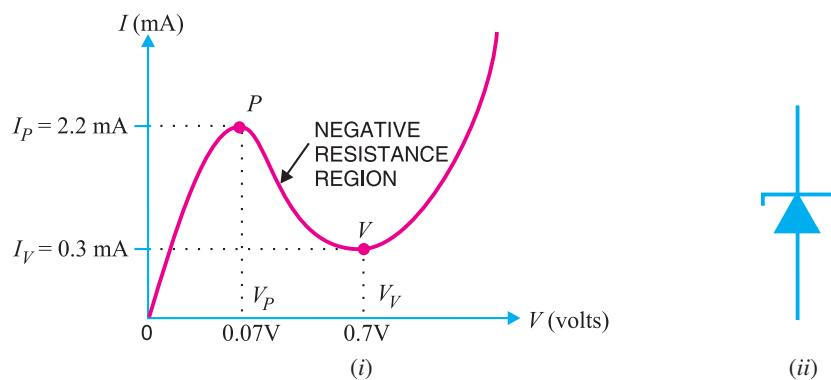

Fig. 7.18
**V-I Characteristic.** Fig. 7.18 (i) shows the V-I characteristic of a typical tunnel diode.
(iii) When forward bias is increased beyond valley-point voltage  $V_V$  ( $= 0.7\text{ V}$ ), the tunnel diode behaves as a normal diode. In other words, from point  $V$  onwards, the diode current increases with the increase in forward voltage *i.e.*, the diode exhibits positive resistance once again. Fig. 7.18. (ii) shows the symbol of tunnel diode. It may be noted that a tunnel diode has a high reverse current but operation under this condition is not generally used.